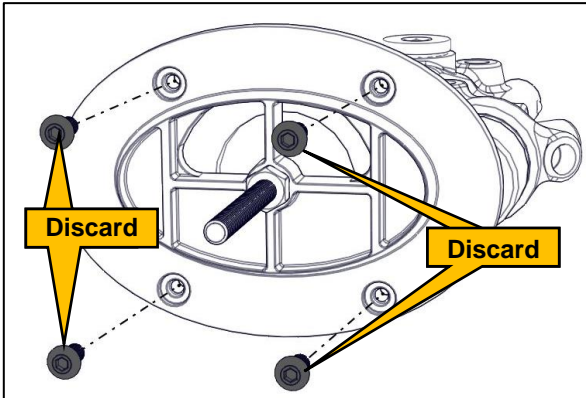

Figure 2 – Remove button head screws
- Remove and discard the button head screws (Figure 2).